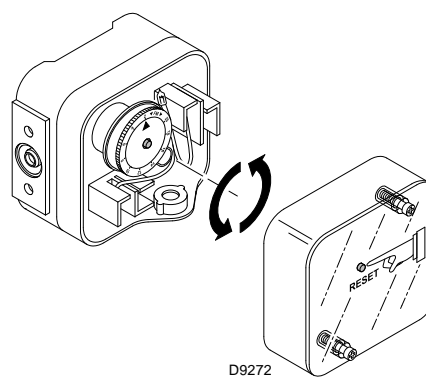

Fig. 52
- Adjust the max gas pressure switch (Fig. 52) to the upper limit of the scale.
Adjust the maximum gas pressure switch (Fig. 52) after having performed all other burner adjustments with the maximum gas pressure switch set to the end of the scale.